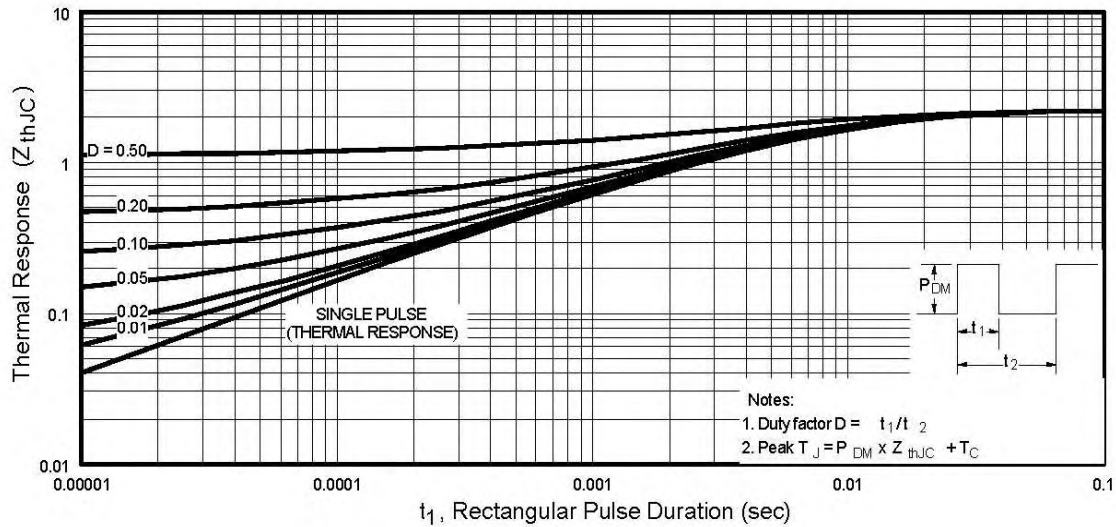

Fig 11. Maximum Effective Transient Thermal Impedance, Junction-to-Case
- ① Repetitive rating; pulse width limited by max. junction temperature. (See fig. 11)
- ② Starting T_J = 25°C, L = 3.6mH